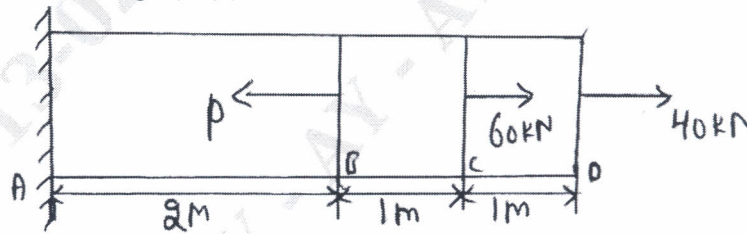

Fig.Q.1(c)
- c. Determine the magnitude of load 'P' necessary to produce zero net change in the length of the straight bar shown in Fig.Q.1(c). Take, area  $A = 400\text{mm}^2$ . (08 Marks)